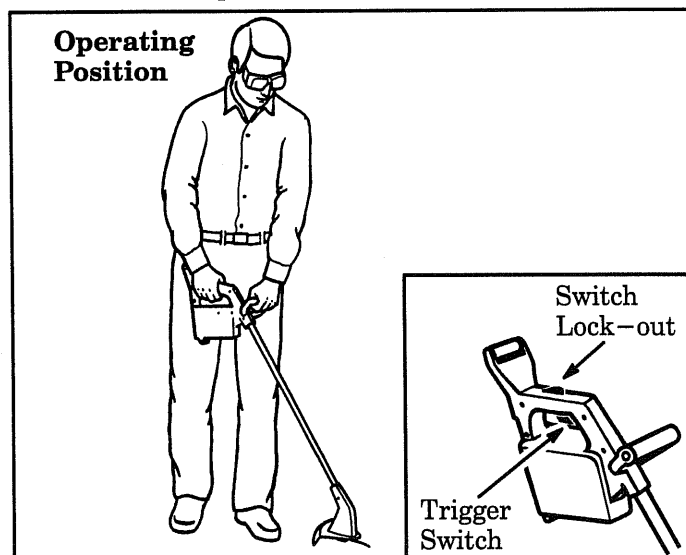

Figure 3
1. Assume the operating position shown in Figure 3.
3. Press the switch lock-out, then squeeze the trigger switch. Figure 3(inset). Hold the trigger switch while cutting; the motor will stop after the trigger switch is released.